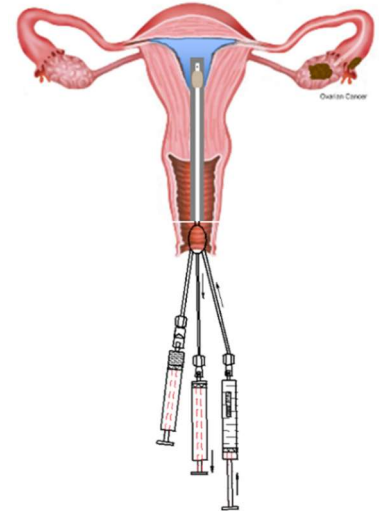

Figure 2. Uterine lavage concept
1. Under sterile conditions prepare the Speiser-catheter (Figure 2) by priming the two flush ports with normal saline pre-warmed to body temperature. First, use one of the pre-filled, pre-warmed syringes to fill the 2mL syringe with 1 mL of saline and connect it to the balloon port to later inflate the balloon at the tip of the catheter. Second, attach the remainder of this pre-filled syringe to one catheter port and flush until fluid comes out the tip and exactly 8 mL remains in the syringe. Third, attach the other pre-filled syringe to the other port and flush until exactly 2 mL remains in the syringe.